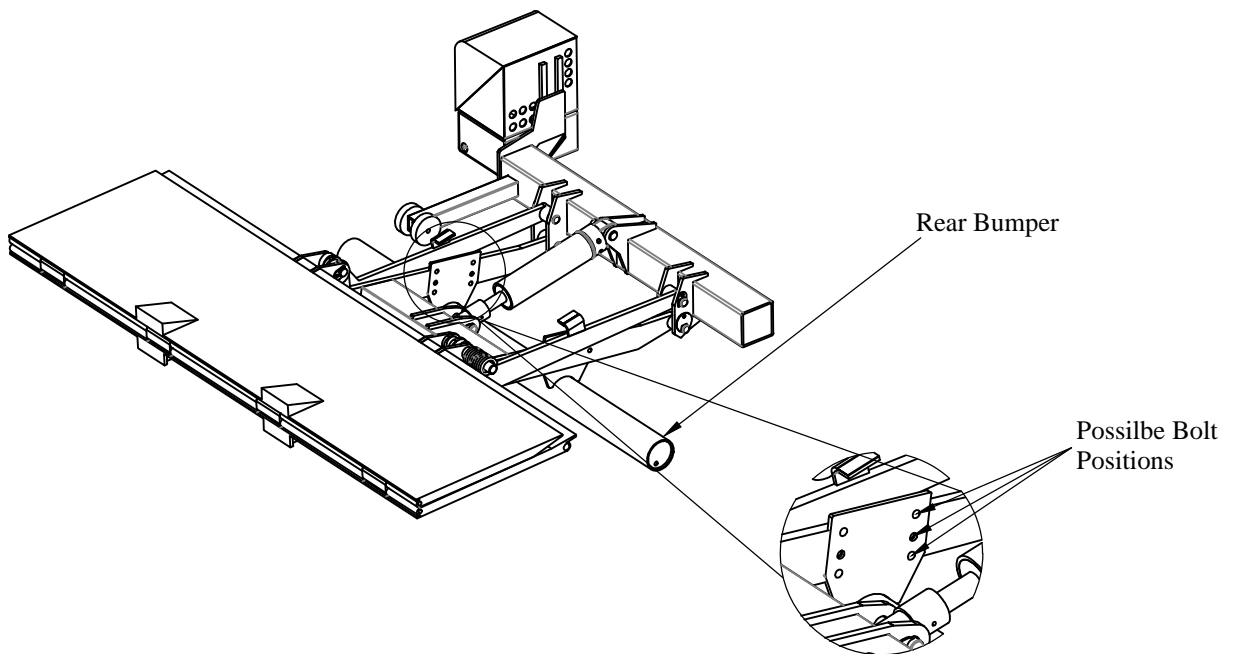

Figure 28: Rear Bumper Installation.
2. **Use** the four (4) provided $\frac{1}{2}$ " x 1-1/2" bolts and $\frac{1}{2}$ " nuts to bolt the bumper in the selected position (Figure 28).